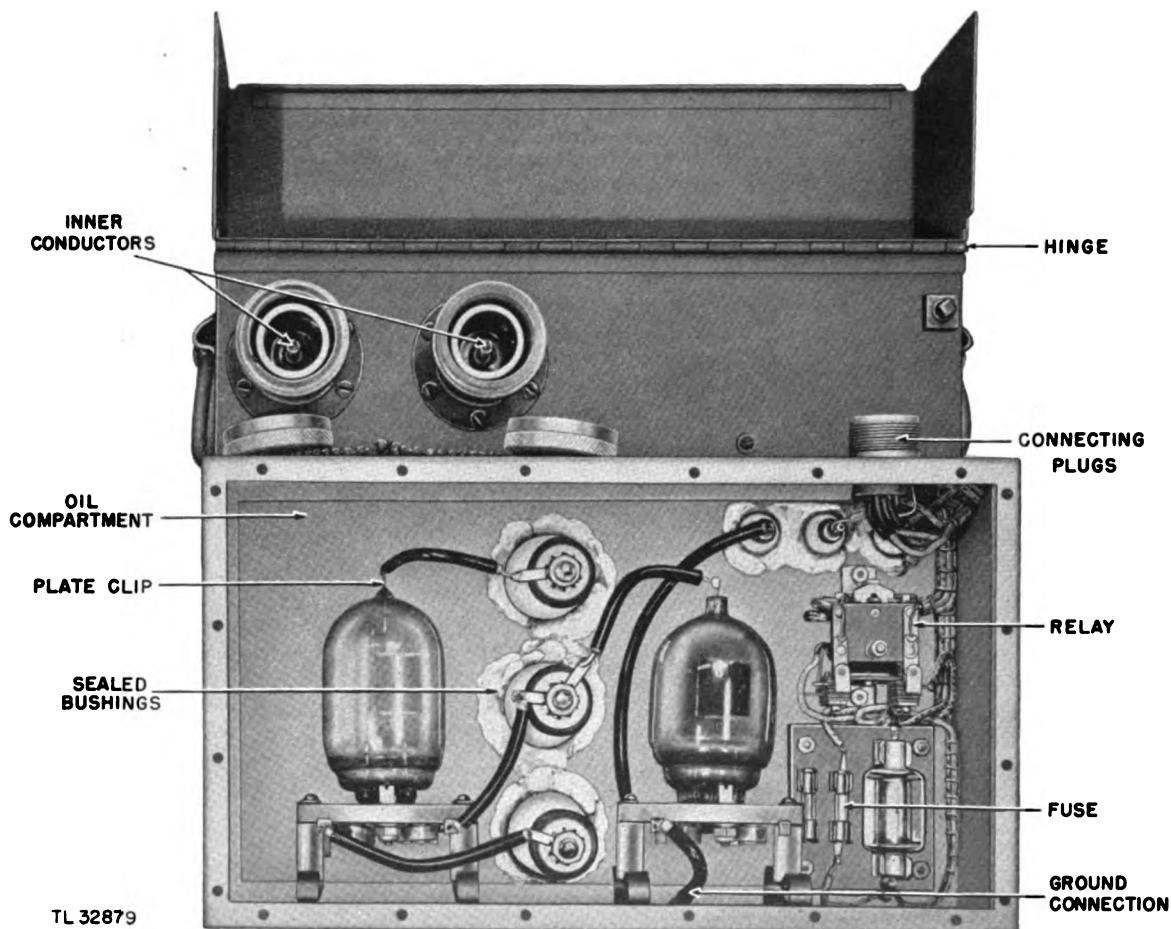

Figure 22. Modulator box with front cover removed.
b. Remove the front cover of the modulator box, and inspect the interior (fig. 22). (Do not open this compartment if it is raining.) Make sure that the tubes are not broken, and that they are all in the sockets. Replace the cover.